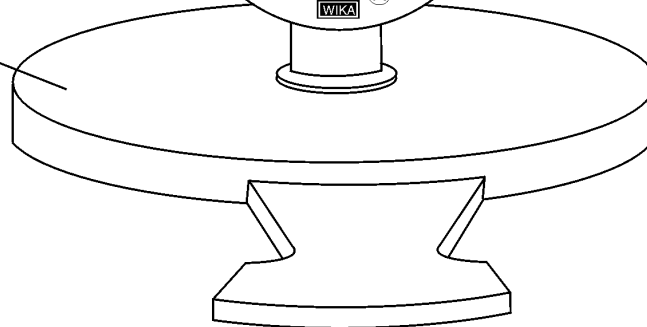

Figure 10. Pump Vacuum Tester
3. As shown in Figure 10, place a water hose inside the discharge opening of the pump, and turn on the water. This flow of water into the discharge opening will **prevent** the pump from running dry.
4. Place the Pump Vacuum Tester (P/N 7000030) over the pump suction (inlet) opening (See Figure 10) with the vacuum gauge facing upwards. It may be necessary to apply a small amount of water around the rubber seal of the vacuum tester to make a good suction fit.